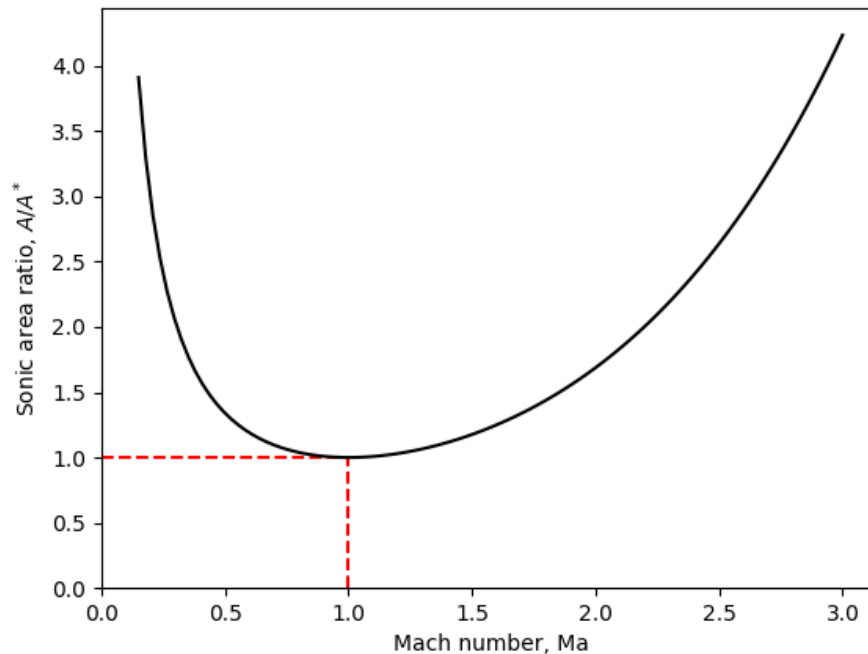

FIGURE 13.20. A plot of the sonic area ratio A/A^* as a function of Mach number for $k = 1.4$.
- (1) Equation (13.128) tells us what area we would need to contract to to get sonic conditions ($Ma = 1, A = A^*$) given the current Mach number, Ma , and area, A .
- (2) We could also interpret Eq. (13.128) as saying, given the area for sonic conditions, A^* , the Mach number, Ma , and area, A , are directly related for an isentropic flow. Recall that this relationship results from Conservation of Mass and the assumption of an isentropic flow.
- (3) Values for A/A^* as a function of Mach number are typically included in compressible flow tables found in the appendices of most fluid mechanics textbooks.
- (4) What happens if we constrict the area to a value less than A^* ? For a subsonic flow, the new area information can propagate upstream and downstream and, as a result, the conditions everywhere change (i.e., the Mach numbers change according to Eq. (13.128) where the new area would be A^*). If the upstream flow is supersonic, then some non-isentropic process must occur upstream (a shock wave) so that the constricted area is no longer less than A^* .
- (5) A plot of Eq. (13.128) is shown in Figure 13.20. Two important features can be observed in the plot. First, the minimum value of A/A^* is equal to one and this minimum occurs at $Ma = 1$, as expected. Second, there are two values of Mach number for a given value of A/A^* – a subsonic value and a supersonic value.